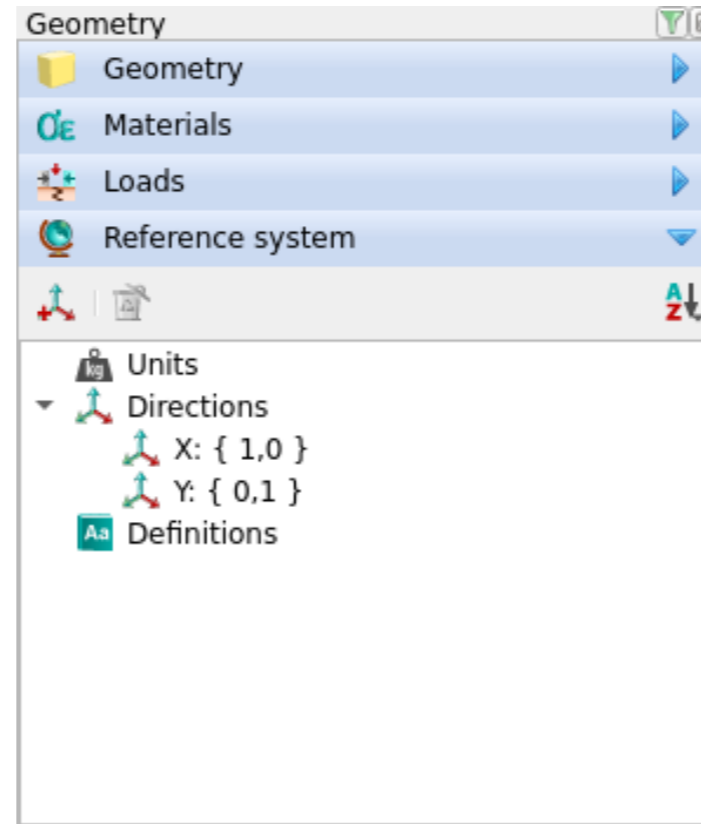

Figure 4: Geometry browser
**Geometry browser** → Reference system → Units [Fig. 4]